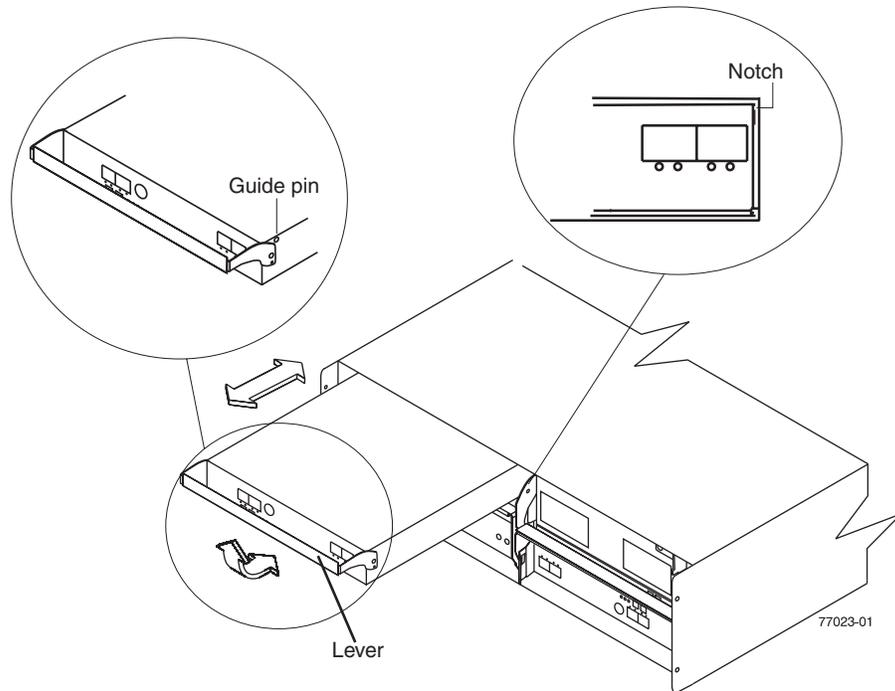

Figure 21. Removing and replacing a controller
1. Slide one controller into the empty slot in the storage subsystem. Be sure that the lever is pulled straight out as you slide the controller in, as shown in Figure 21 on page 39.